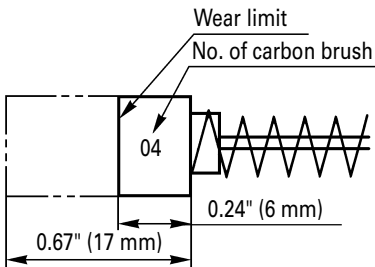

Fig. 31
4. Inspecting the carbon brushes: (Fig. 31)
NOTE: Use HITACHI carbon brush No.04 indicated in Fig. 31.